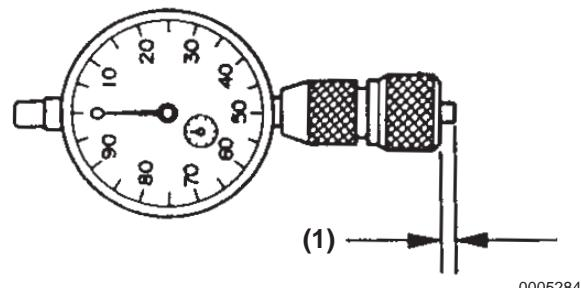

Figure 6-24
1. Attach the special tool to the dial indicator and adjust the stem to 3.0 mm (0.118 in.) or less (**Figure 6-24, (1)**).